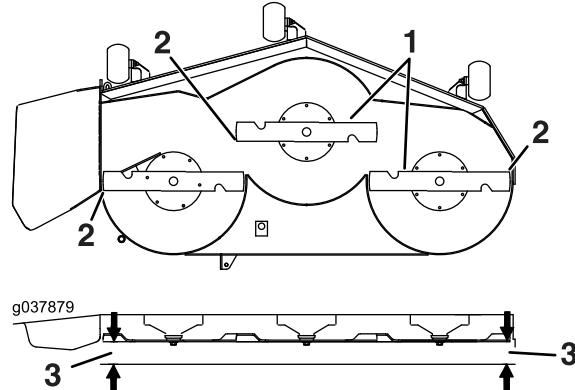

Figure 94
- Measure between the blade tip and the flat surface (Figure 94). If both measurements are not within 5 mm (3/16 inch), adjust the leveling; continue with this procedure.
14. Carefully rotate the blades side to side (Figure 94).